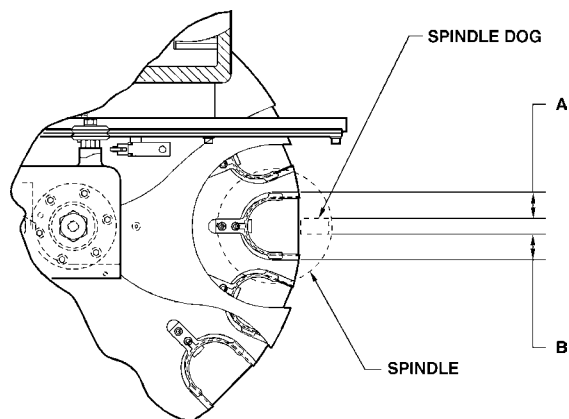

Fig. 14-1 Underside showing centering measurements.
2. Using the dial calipers, measure from the left side of the spindle dog to the left side of the turret pocket (Measurement "B" in Fig. 14-1).
spindle dog to the right side of the turret pocket (Measurement "A" in Fig. 14-1).